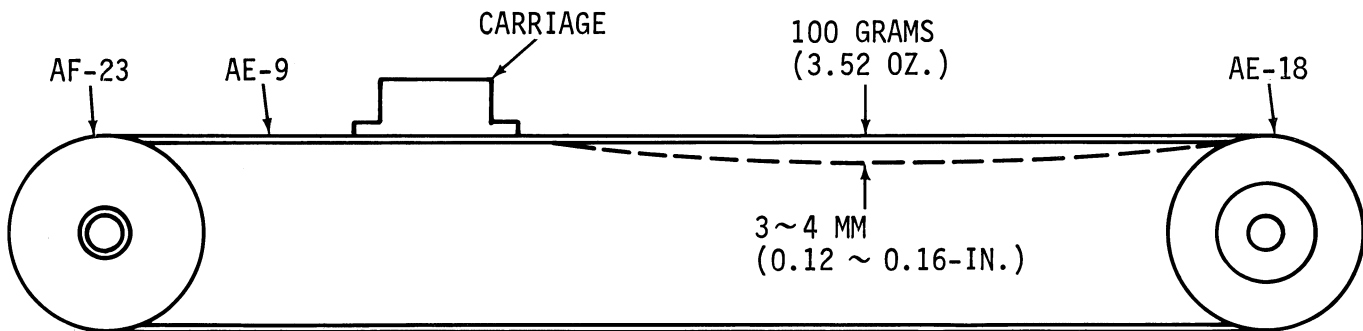

Figure 5-4. MAIN MOTOR BELT ADJUSTMENT (AE-9)
- (c) Remove screw and washer (AE-13, 14) releasing anti-rotation stopper (L) (AE-12).
- (d) Loosen two allen-head screws (AE-19) on driving pulley (C) (BE-18).
- (f) Slide loosened belt off driving pulley (C) (AE-18).
A. Drive Belt (AE-9) Main Motor (See Figure 5-4)